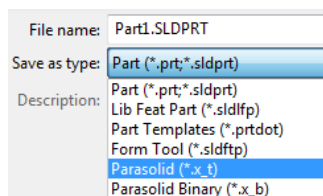

Figure 15
2. A “Save As” window should appear. In the Save as type drop-down list, **select Parasolid (*.x_t)** (See Figure 15).